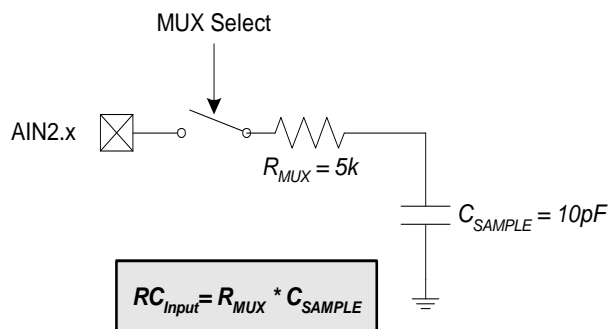

Figure 7.3. ADC2 Equivalent Input Circuit
A minimum tracking time is required before an accurate conversion can be performed. This tracking time is determined by the ADC2 MUX resistance, the ADC2 sampling capacitance, any external source resistance, and the accuracy required for the conversion. Figure 7.3 shows the equivalent ADC2 input circuit. The required ADC2 settling time for a given settling accuracy (SA) may be approximated by Equation 7.1. Note: An absolute minimum settling time of 0.8 μ s required after any MUX selection. Note that in low-power tracking mode, three SAR2 clocks are used for tracking at the start of every conversion. For most applications, these three SAR2 clocks will meet the tracking requirements.